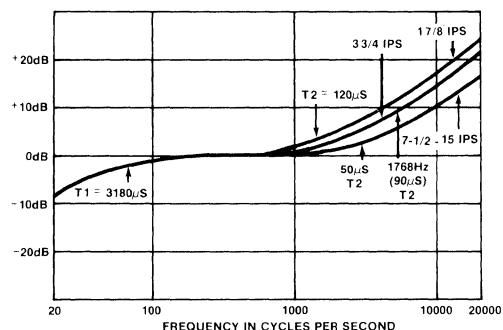

Figure 8-56
Figure 8-56 indicates the circuitry for using two (2) IC's for a NAB response amplifier. Specific care should be taken to terminate the input only when using a voltmeter. When using the magnetic head, the terminating resistor should be removed.